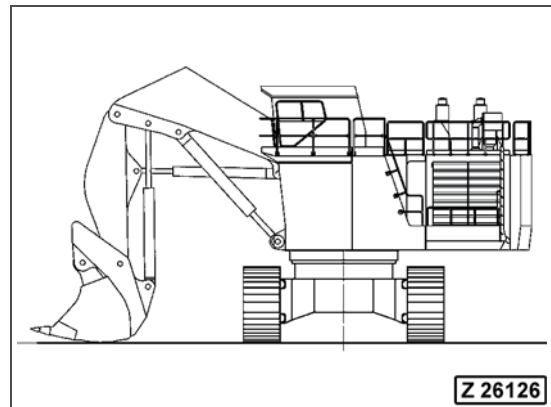

Fig. 5-245 Exemplaric sketch
2. Park the machine on the prepared flat area with the superstructure turned by 90° and position the bucket on the ground as shown (Fig. 5-245).